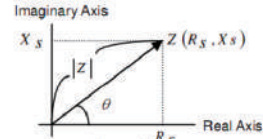

Figure 1
3.2 Impedance Parameter Description (see Figure 1)